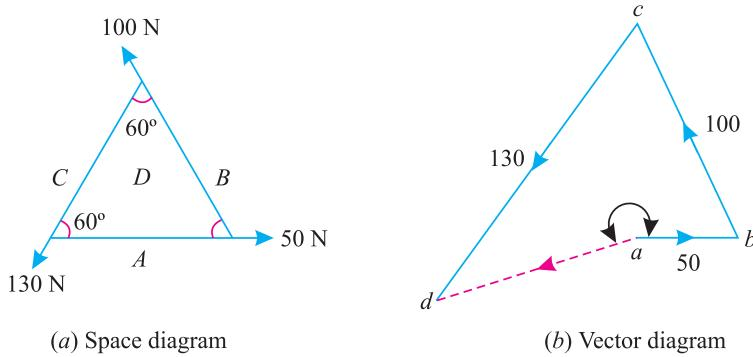

Fig. 2.8.
**Solution.** The system of given forces is shown in Fig. 2.8 (a)
First of all, name the forces according to Bow's notations as shown in Fig. 2.8 (a). The 50 N force is named as  $AD$ , 100 N force as  $BD$  and 130 N force as  $CD$ .
Now draw the vector diagram for the given system of forces as shown in Fig. 2.8 (b) and as discussed below :